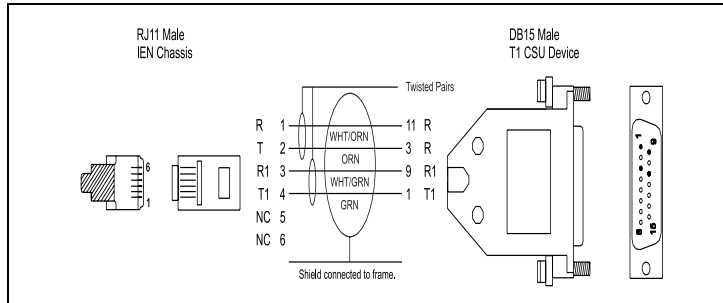

Figure 4-32 Type T1K Cable
The Hypercom Type T1K cable (#810099-001) is a male RJ11 to male DB15 cable. The cable is used with the DSX11 or DTC11-LHO port processors to attach specifically to the DSX-1 interface jack of a T1 CSU. The length of the cable is 10'. Figure 4-32 illustrates the pinout for the Type T1K cable.
The Hypercom Type T(63) cable (#810123-001) is a male RJ11 to two female RJ11 cable. The cable provides two female RJ11 connectors that come off of a CID63 port processor. This cable can be connected to other Hypercom RJ11 type cables. The cable splits out the two line ports of a CID63 port processor. The length of the cable is 3'. Figure 4-32 illustrates the pinout for the Type T(63) cable.